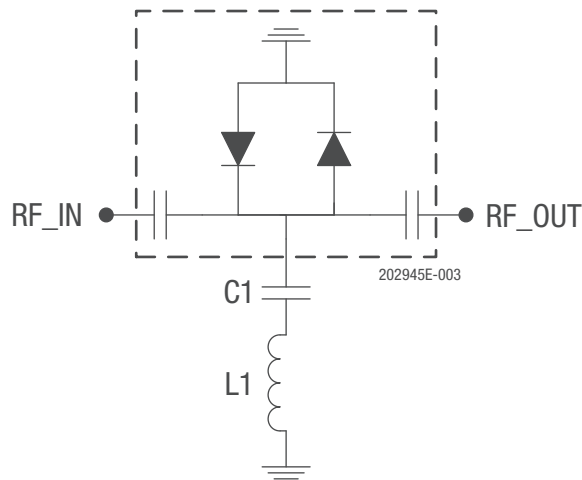

Figure 3. SKY16602-632LF Schematic with External Tuning Networks Optimized for 2.45 GHz
The module may be RF tuned for optional RF match and insertion loss centered at a target frequency within its normal band of operation. This is done with the use of external surface mount components. The schematic diagram in Figure 3 shows the SKY16602-632LF limiter with a shunt connected capacitor and inductor tuned for 2.45 GHz. The bill of materials for the 2.45 GHz tuned circuit is shown in Table 4. Electrical specifications for the 2.45 GHz tuned limiter module are provided in Table 5.
**Table 5. SKY16602-632LF Electrical Specifications (Tuned to 2.45 GHz Operation, Reference Figure 3)